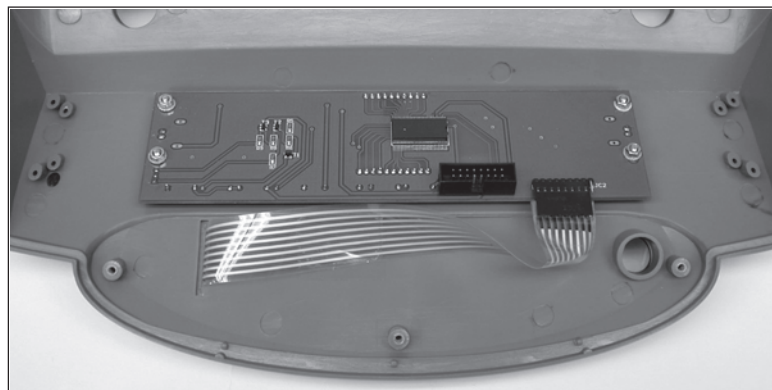

Figure 4-12. Removing Screws from the Display PC Board.
4. Remove the six screws that hold the Display PC Board to the Top Housing. See Figure 4-12.